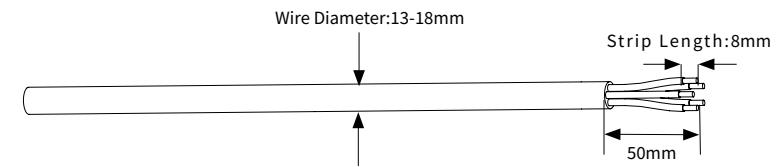

Figure 4-16
② According to the table above, select an appropriate cable, peel the insulation sleeve of AC cable off for 50mm, and peel off the end of 3L /PE / N wires for 8mm, as shown in Figure 4-16: